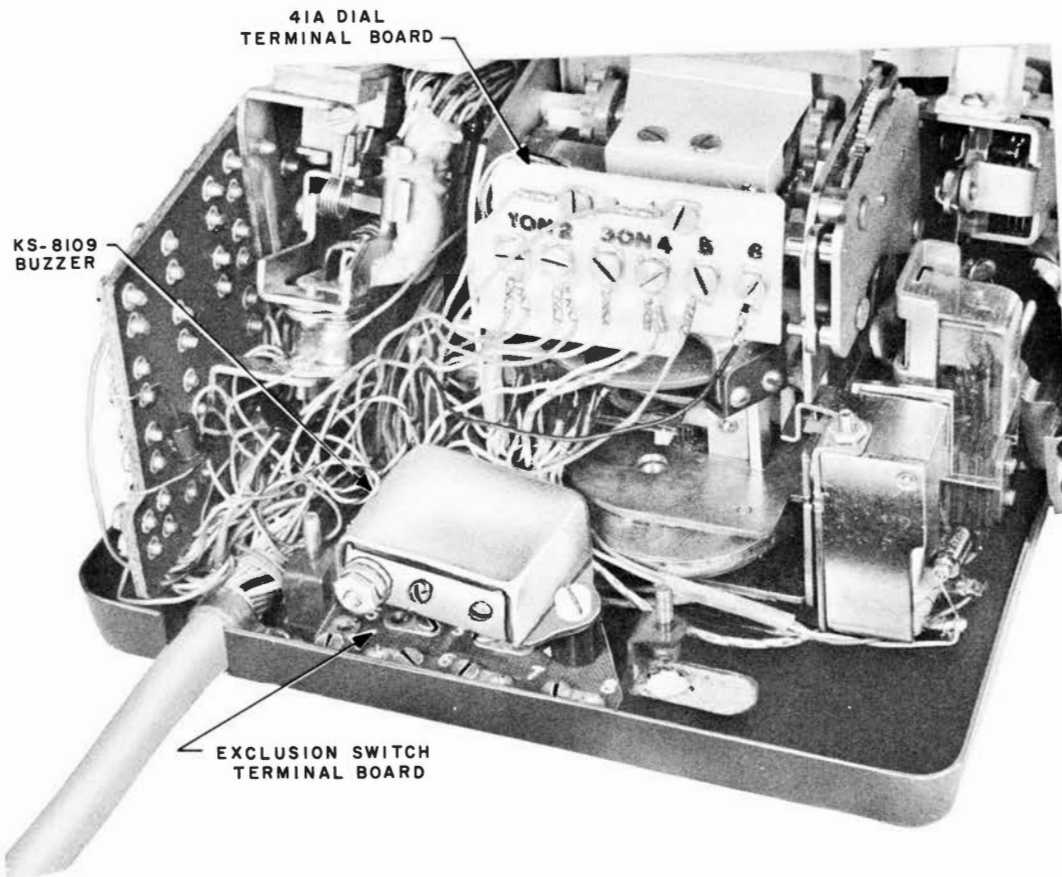

Fig. 4 - Location of Buzzer and Terminal Board
7. If buzzer is not provided, mount terminal board to base using plastic screws and spacers provided with set. If buzzer is provided, mount buzzer above terminal board with spacers between terminal board and buzzer to prevent interference between circuits. (See Fig. 4.)